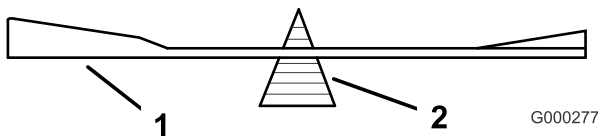
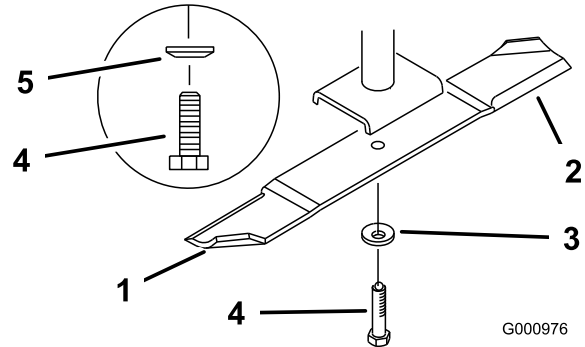

Figure 87
Figure 88
2. Remove the blade bolt, spring disk and blade from the spindle shaft (Figure 88).
2. Check the balance of the blade by putting it on a blade balancer (Figure 87). If the blade stays in a horizontal position, the blade is balanced and can be used. If the blade is not balanced, file some metal off the end of the sail area only (Figure 88). Repeat this procedure until the blade is balanced.
1. Install the blade onto the spindle shaft (Figure 88).
2. Install the spring disk and blade bolt. The spring disk cone must be installed toward the bolt head (Figure 88). Torque the blade bolt to 85-110 ft-lb (115-150 N-m).